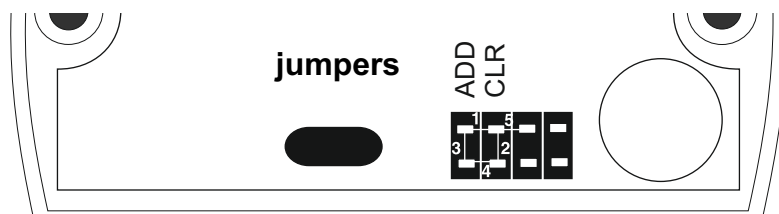

Figure 3. Jumper Positions.
One jumper comes with each Matrix II K reader for programming purposes. There are five valid jumper positions (see Fig. 3).
- Connect the external devices to reader terminals according to the connection layout. If the lock is electromechanical, please install a protective diode (see Fig. 7), and the jumper into Position #1 (see Fig. 3).